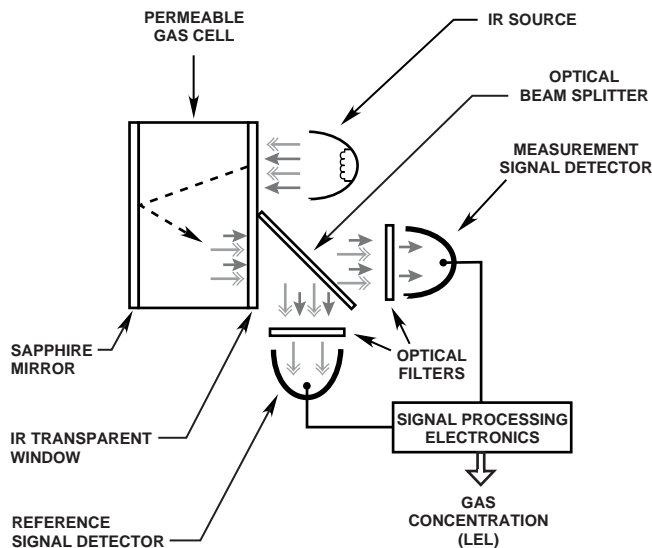

Figure 1—Measurement Scheme for Infrared Gas Detector
Flammable hydrocarbon gases diffuse through the weather baffle assembly into the internal measurement chamber, which is illuminated by an infrared (IR) source. As the IR passes through the gas within the chamber, certain IR wavelengths are absorbed by the gas, while other IR wavelengths are not. The amount of IR absorption is determined by the concentration of the hydrocarbon gas. A pair of optical detectors and associated electronics measure the absorption. The change in intensity of the absorbed light (active signal) is measured relative to the intensity of light at a non-absorbed wavelength (reference signal). See Figure 1. The microprocessor computes the gas concentration and converts the value into a 4 to 20 milliamper current output or digital process variable signal, which is then communicated to external control and annunciation systems.